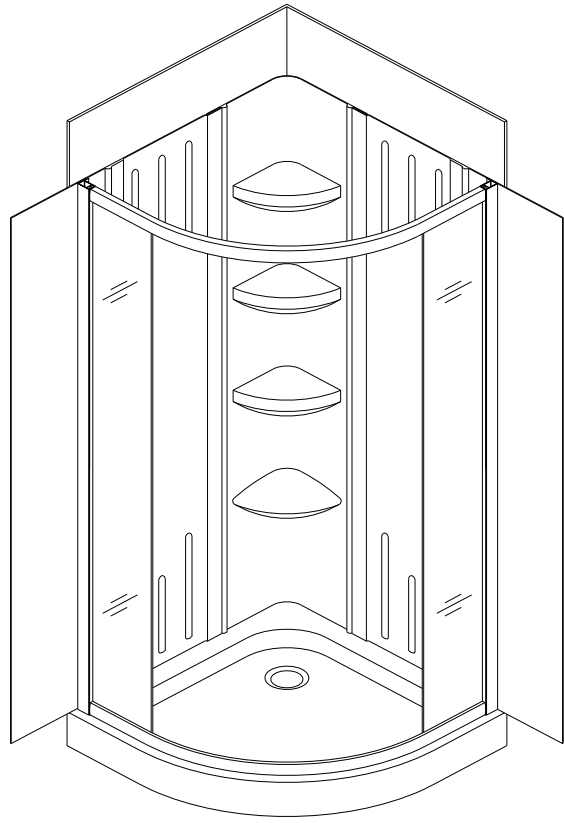
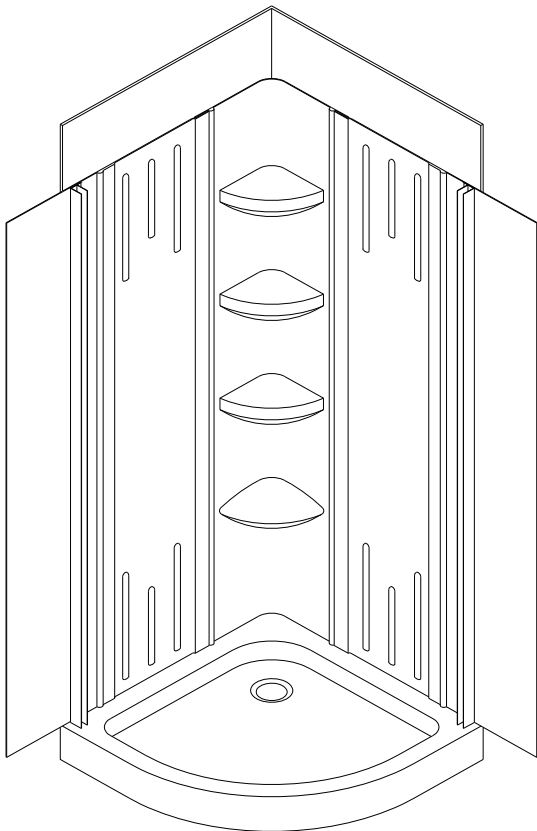

Fig 10
Fig 11
9. Without permanently installing the front enclosure, mark the outer edges of the vertical profiles. See Fig 10 and Fig 11 for details.